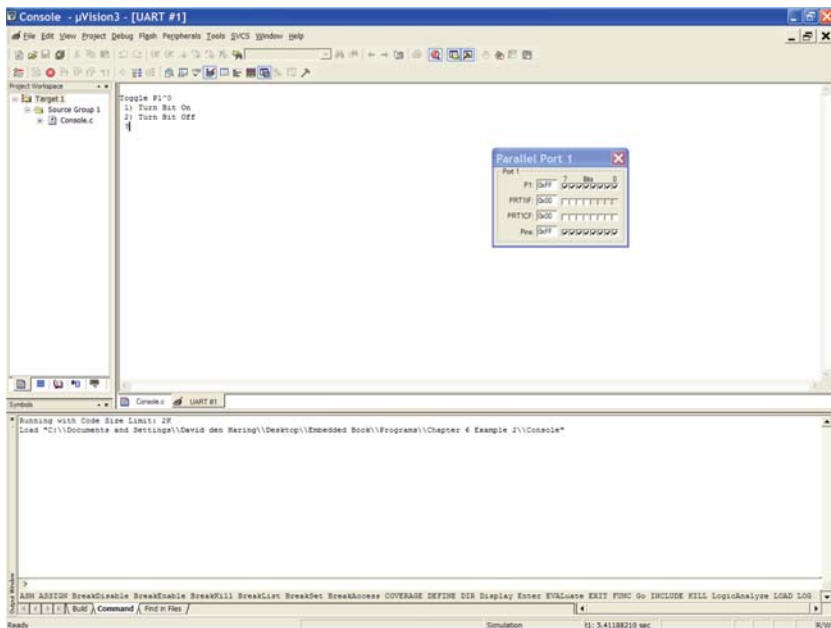

Fig. 6.11 Simple Console Screenshot
5. See Figure 6.11 for a screenshot of the console menu.